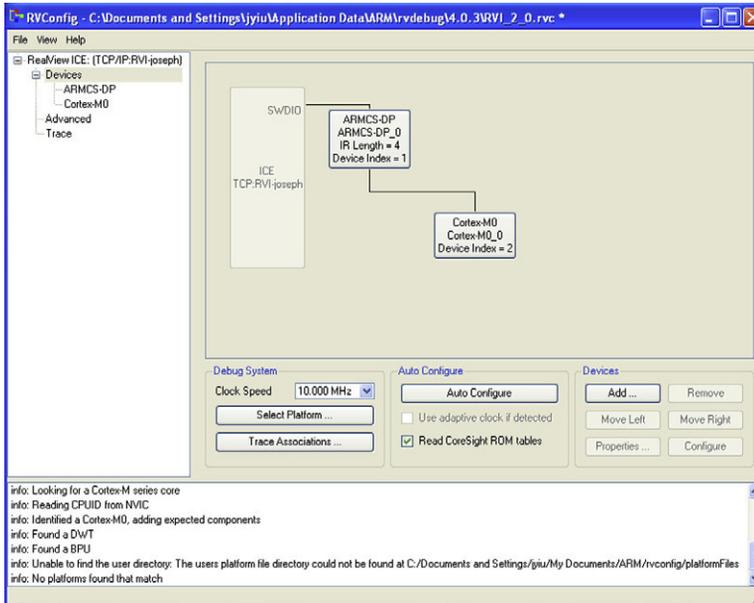

Figure 19.15: RealView-ICE connected to the Cortex-M0 using the serial wire debug interface.
- Now you can connect to the Cortex-M0 using the serial wire debug interface (Figure 19.15).